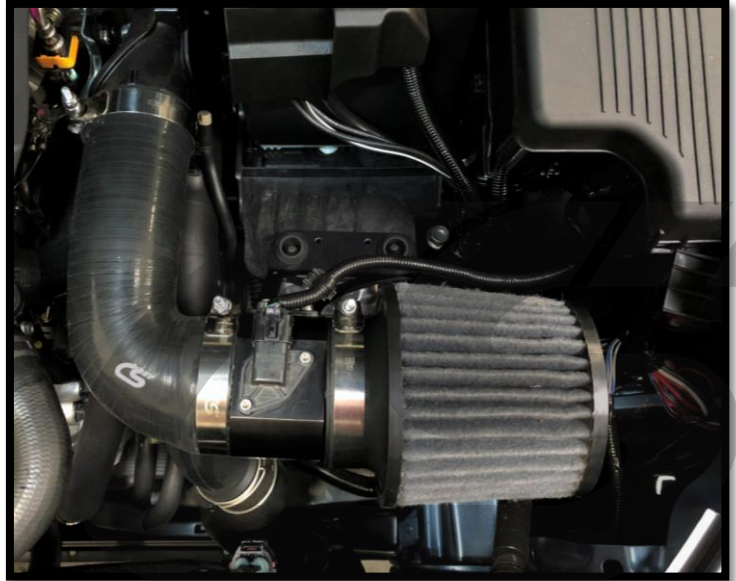

Figure 4c
- h) Insert the CorkSport filter onto the CorkSport MAF housing. Tighten the T-Bolt clamp to secure filter to MAF housing. **Figure 4c** shows the filter installed in the vehicle.